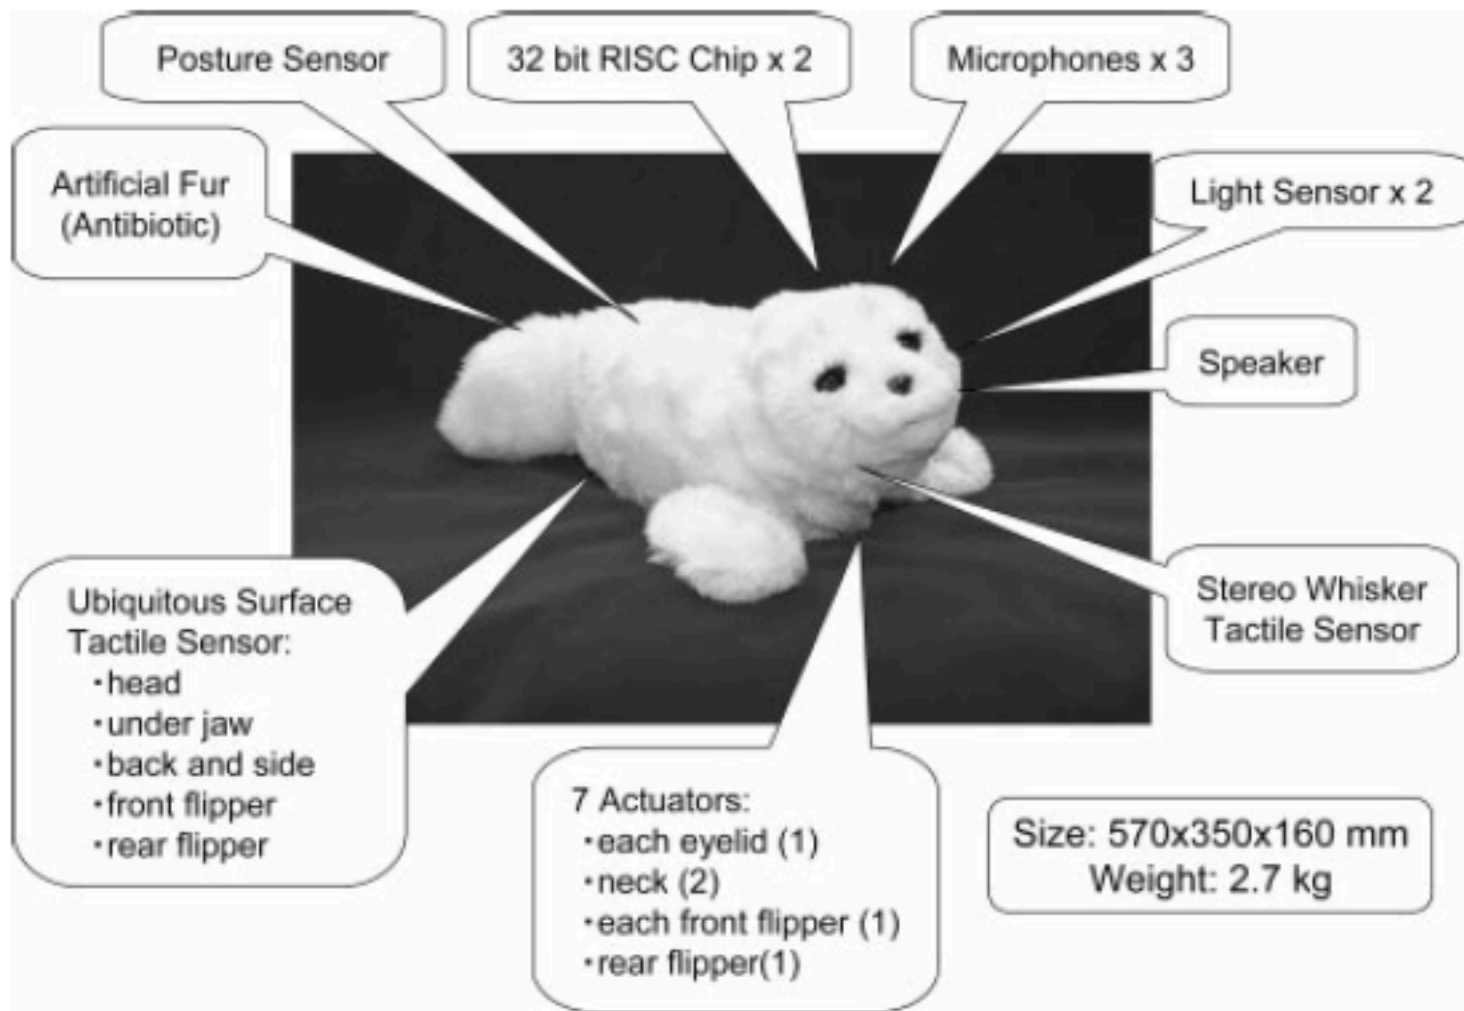

Fig. 1. Paro, the seal robot.
Fig. 1. The chain of friendships: $i \rightarrow j$ means i looks for j (j is i 's friend). The black triangle indicates the formation heading. In the centered line formation on the left, the robot with the middle ID (4) is the conductor. For the non-centered column formation on the right, the robot with the lowest ID (1) is the conductor.